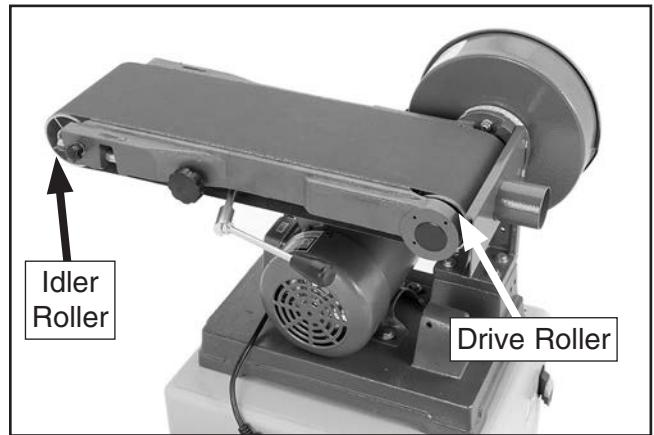

Figure 36. Belt installed onto idler and drive rollers.
- 21.** Move the quick release lever toward the motor, slide the sanding belt over the lever and onto the idler roller and drive rollers, then center the belt on the rollers (see **Figure 36**).